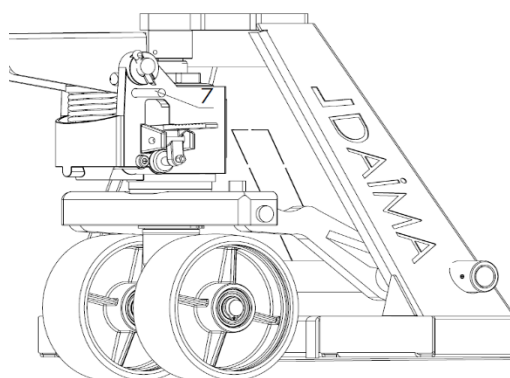
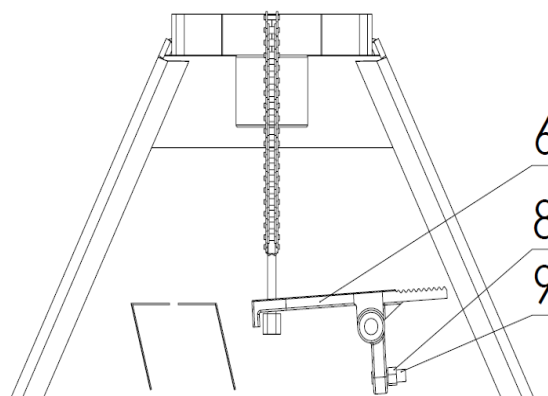

**Figure 1**
**Figure 2**
- ▶ Pull the lift arm connecting pin, numbered 1 in Figure 1, and remove it from it's socket. (Figure 2)
- ▶ Assemble the lifting arm (See Figure 2, item 3) and the hydraulic pump (See Figure 2, item 5) with the lifting arm connecting rod.
- ▶ Then fix the lift arm by inserting the cotter pin (see Figure 1, item number 2) through the holes on the lift arm connecting shaft on the right and left.
- ▶ Pass the chain on the lift arm (See Figure 2, part number 4) through the hole in the middle of the lift arm connecting shaft.